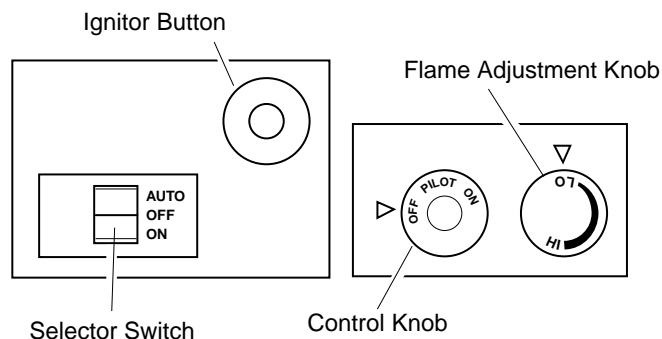

Figure 27 - Control Knob and Ignitor Button Location (Shown as Supplied, No Control Options)
5. Wait five (5) minutes to clear out any gas. Then smell for gas, including near the floor. If you smell gas, **STOP!** Follow "B" in the safety information. If you don't smell gas, go to the next step.
6. Press in and turn control knob counterclockwise  to the PILOT position. Press in control knob for five (5) seconds (see Figure 27).